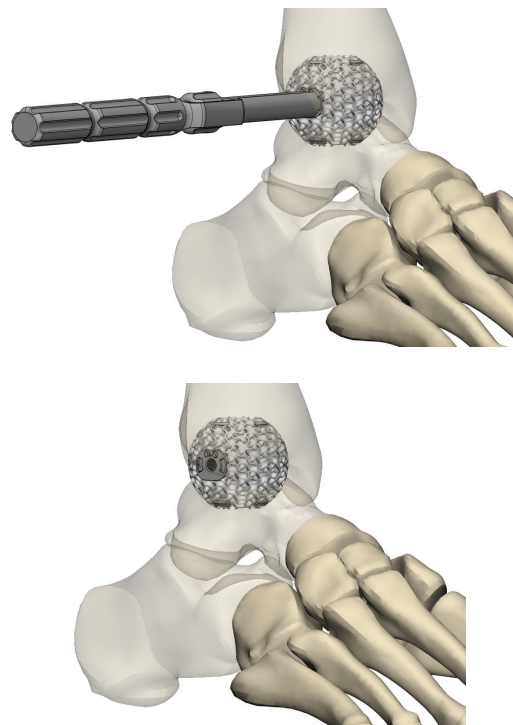

Fig. 12
12. Place the Ossera™ AFX into the surgical site such that the central hole of the Ossera™ AFX is aligned with the reamed tibial canal in the anterior and lateral views as verified under fluoroscopy. Use the inserter attached to the Ossera™ AFX to maintain implant position during nail insertion to minimize contact of the nail with the central hole of the Ossera™ AFX. (fig. 12).